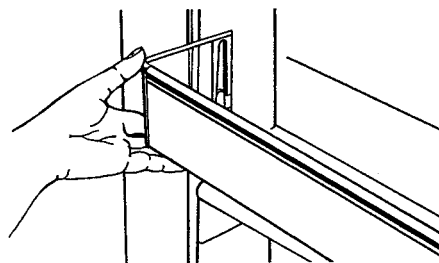

Figure 25.
- Pull shelf straight up. See Figure 25.